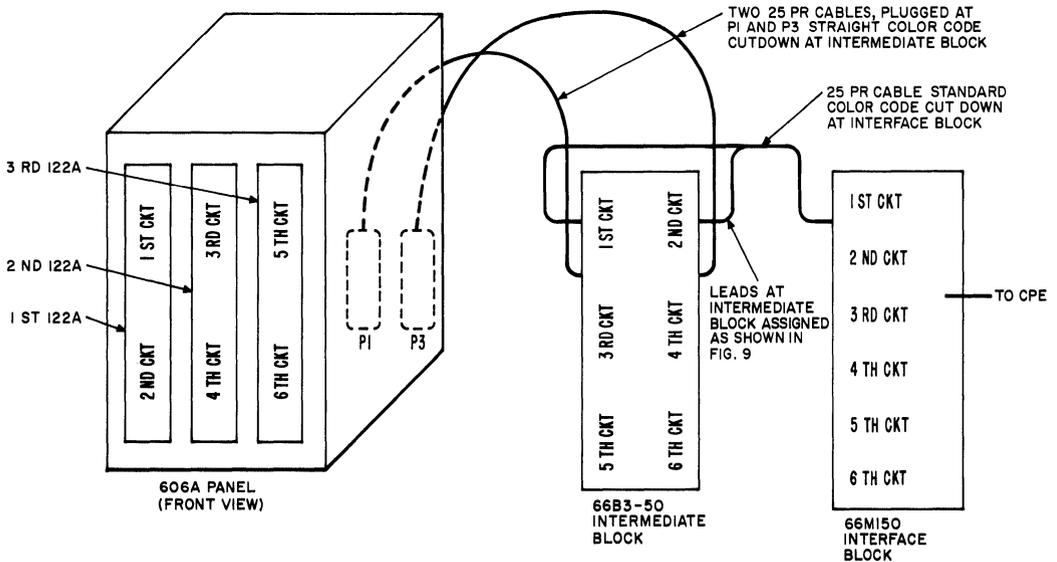

Fig. 6—Cabling Diagram—Voice Connecting Arrangement KTX
**3.04** Connect the two A25B connector cables to the two plugs, P1 and P3 (Fig. 3), on the rear of the 606A panel. P1 is wired to the three upper 914A connectors (J1A, J2A, J3A) and P3 is wired to the three lower 914A connectors (J1B, J2B, J3B). See Fig. 6 for connector and trunk arrangement in 606A panel. Terminate the raw ends of the two A25B connector cables on the 66B3-50 intermediate connecting block following the wiring plan shown in Fig. 5 and 6 and connections